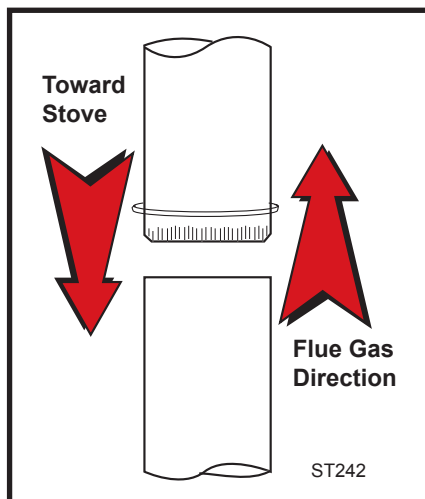

Fig. 4 Crimped sections always point toward the stove so that any liquid condensation will not leak out.
1. Insert the crimped end of the first section into the stove's flue collar, and keep each crimped end pointing toward the stove. (Fig. 4) Using the holes in